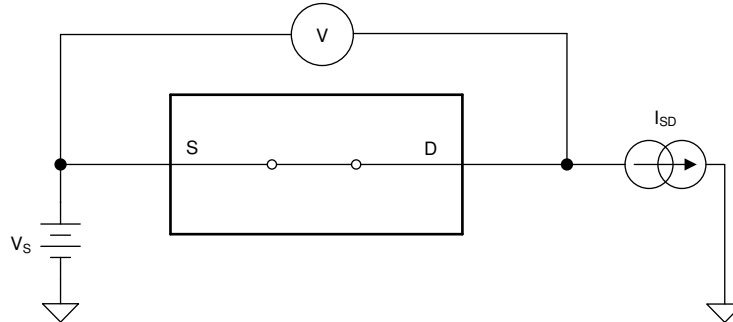

Figure 7-1. On-Resistance Measurement Setup
The on-resistance of a device is the ohmic resistance between the source (S) and drain (D) pins of the device. The on-resistance varies with input voltage and supply voltage. The symbol R_{ON} is used to denote on-resistance. The measurement setup used to measure R_{ON} is shown in Figure 7-1. Voltage (V) and current (I_{SD}) are measured using this setup, and R_{ON} is computed with $R_{ON} = V / I_{SD}$: